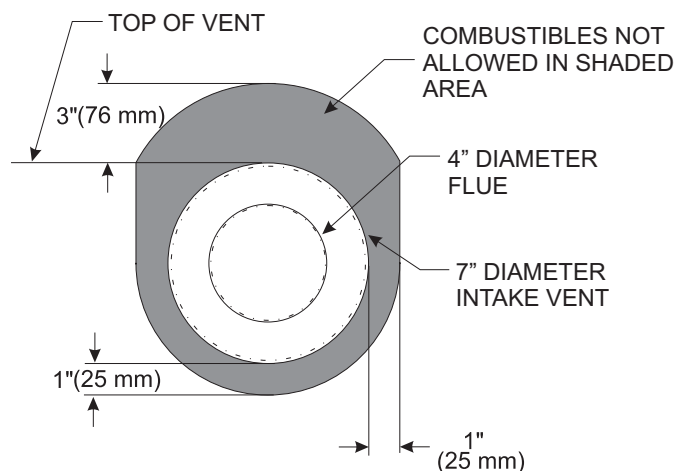

Figure 60
5. Install the Wall Firestop/Thimble assembly as required through the wall. Refer to the venting charts in the fireplace manual to determine the proper height and size of the vent opening. The minimum opening should be 9 inches wide by 11 inches high. The minimum combustible clearance from the horizontal vent is 1 inch from sides and bottom, and 3 inches above the vent pipe. See Figure 60.